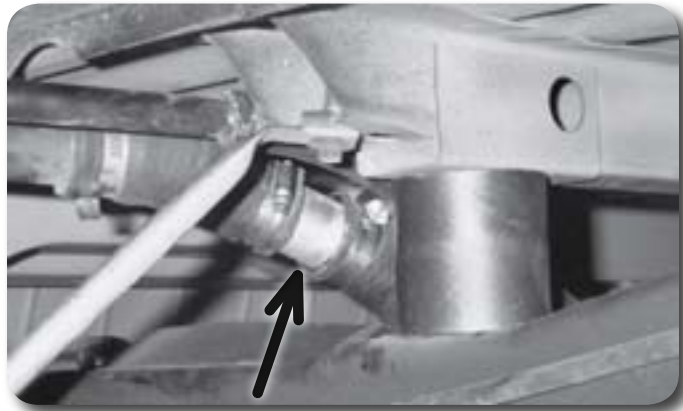

Figure 17
93. Install the modified filler assembly in the vehicle **Figure 17**. Attach the filler hose to the fuel tank using the stock clamp. Attach the vent hose to the tank using a #10 hose clamp provided. Adjust the length of the extension and tighten all the clamps.